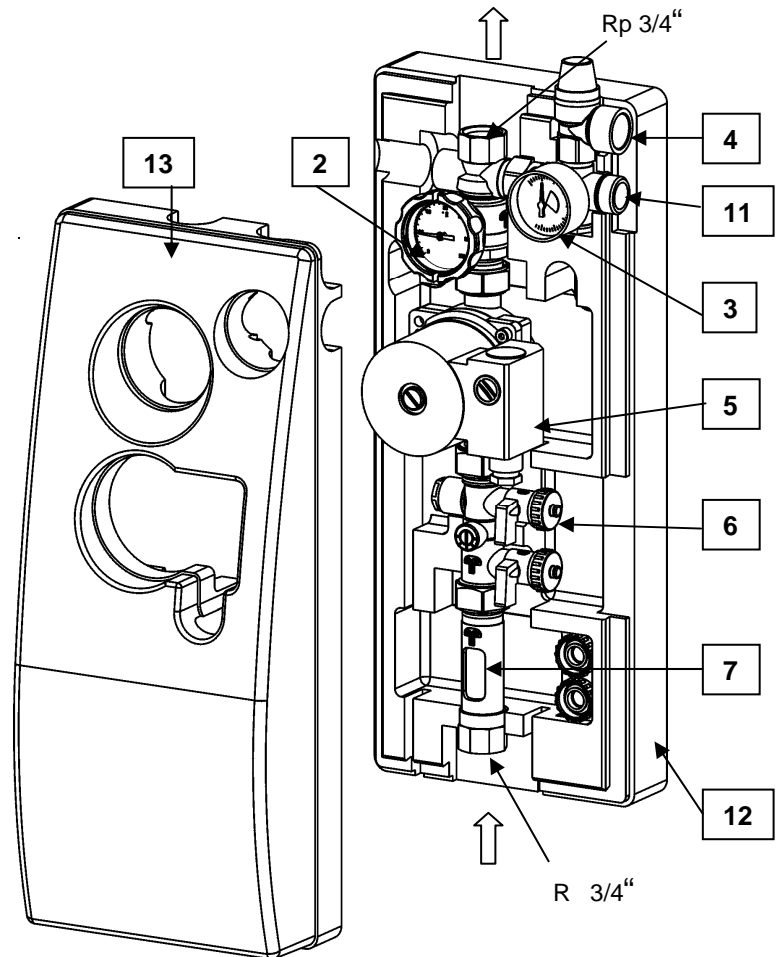

Fig. 1
For maintenance tasks (e.g. replacing the pump) close the return ball valve and the shut-off in the drain fitting (Figure 1, pos.2 and pos. 6)